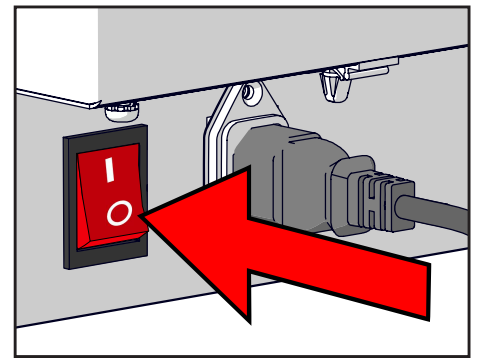

Figure 11.
2. Switch the machine off with the ON/OFF switch on the rear of the machine (see Figure 11).